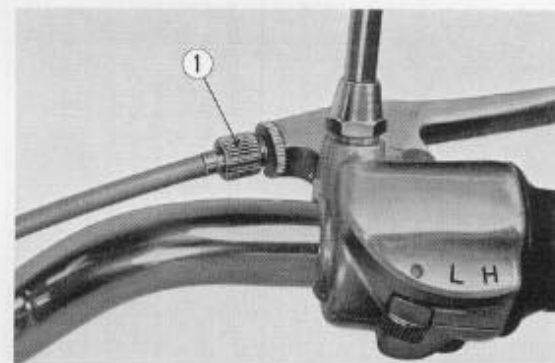
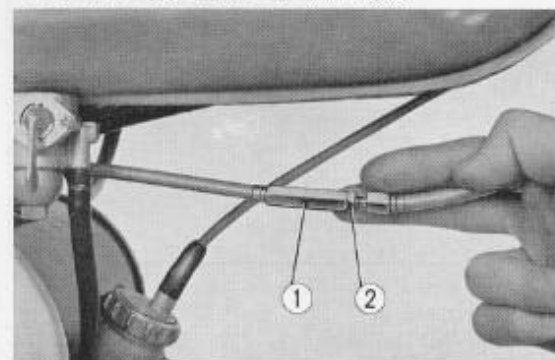

Fig. 4.16A ① Clutch cable upper adjuster
Fig. 4.16B ① Clutch cable adjuster ② Lock nut
NOTE: The adjustment of the clutch lever free travel can be made at both clutch cable upper adjuster ① (Fig. 4.16A) and at the clutch cable adjuster ① (Fig. 4.16B)